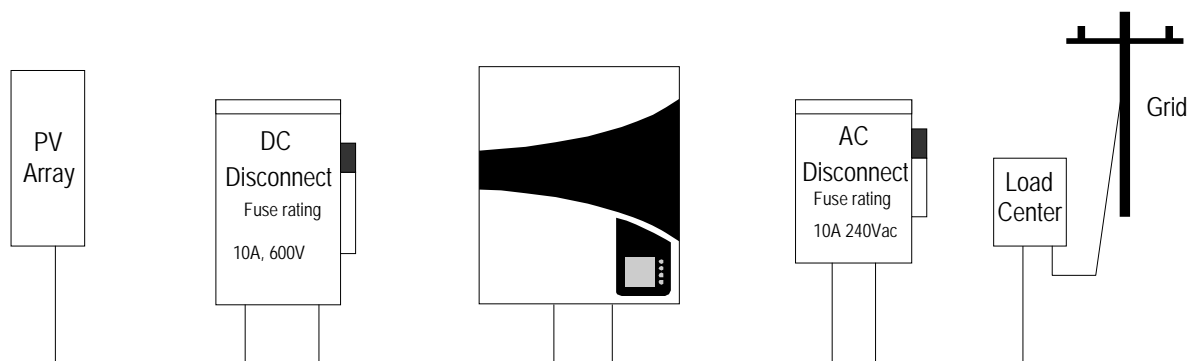

Fig.8 General wiring diagram
**NOTE:** According to the typical assembly diagram (see Fig.8) each array must be connected to Dc disconnect. An AC disconnecting mean provided with fuses or an over-current protection must be used to connect AURORA to the grid. Although the fuses are not mandatory, should you choose to use a Power-One-approved over-current protection, we recommend insetting them in the system.